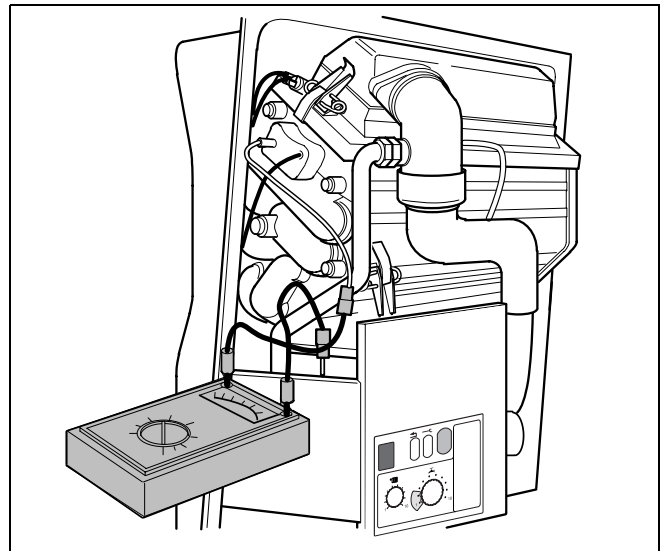

fig. 41 Measuring the ionisation current
- Loosen the plug-and-socket connector of the monitoring cable and connect the measuring device in series (fig. 41). Select on the measuring device the μA direct current range. The measuring device must have a resolution of at least 1 μA .